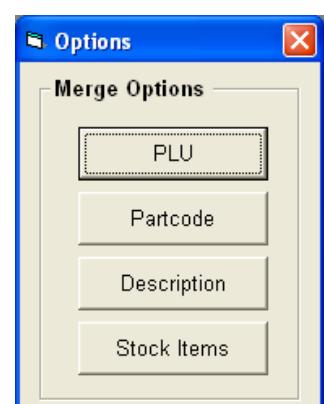

Figure 164
6. The 'Options' window will be displayed (see Figure 164). Select which option you wish to merge by. LOTS will search for duplicate: